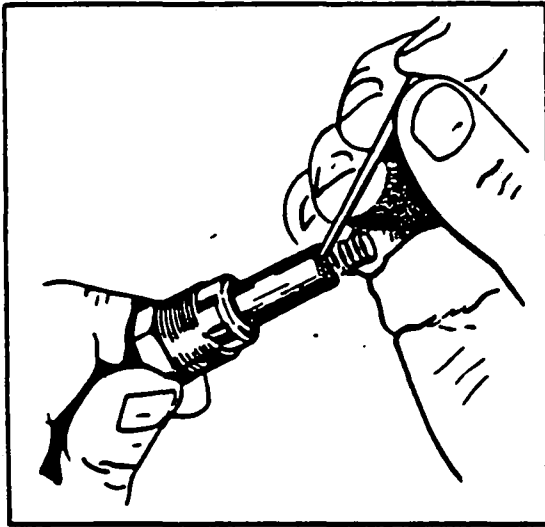

Figure 8-14. Removing Spring
1. Using a Scintilla 11-7073 Needle or a mechanical pencil with the lead retracted, hook the end of the contact spring as shown in Figure 8-14.